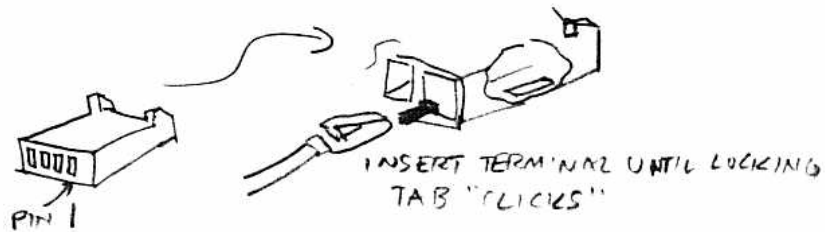

Fig. 3 - Molex Pin Installation
- () Insert the brown wire pin at Pin 1 of the Molex housing. The "ears" of the housing are at the end of the housing where the pin will "seat" - DO NOT INSTALL THE WIRE FROM THIS END! There is a little metal tab on the pin which will "click" into a slot in the housing when the pin is properly seated. See Fig. 3.